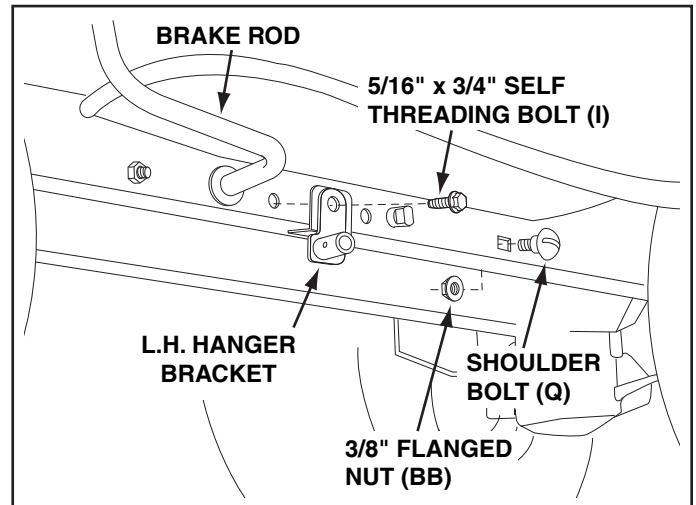

FIGURE 5 LEFT SIDE VIEW
STEP 5: (SEE FIGURE 5)
- Attach the L.H. Hanger Bracket (tube facing out) to the hole using a 5/16" x 3/4" self threading bolt (I).
- Install a round head shoulder bolt (Q) into the hole that is 9-1/2" to the rear of the bolt you just installed. Secure it with a 3/8" flange nut (BB) on the inside of the frame.